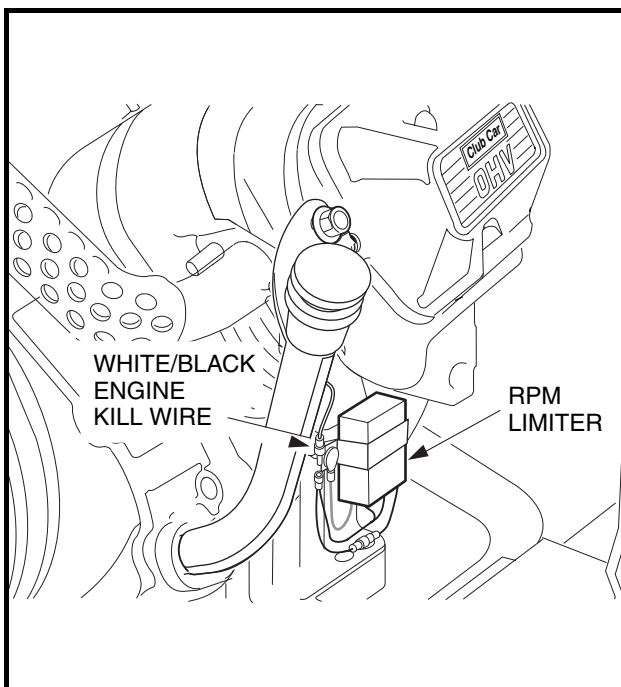

Figure 11-15 Disconnect White/Black Engine Kill Wire
2. Disconnect the engine kill white/black wire at the bullet connector located next to the RPM limiter (Figure 11-15, Page 11-19).
2. Disconnect white/black wire bullet connector located at the engine RPM limiter (**Figure 11-15, Page 11-19**).